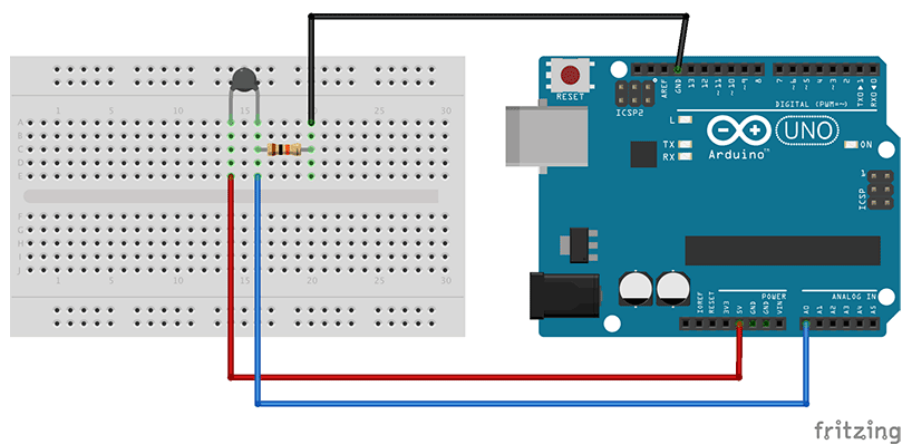

Figure 1.5 – Connection Diagram of Arduino and Thermistor
1. Connect Arduino (Figure 1.5)